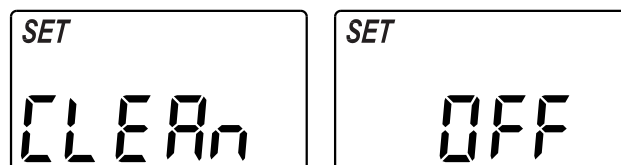

FIG. 28
2. Press the SELECT button once again, so that "SET CLEAN OFF" or "SET CLEAN ON" flashes in the display (See Figure 28).